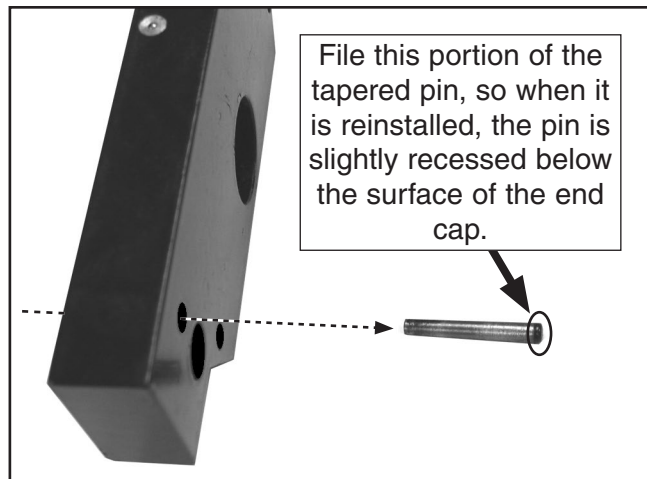

Figure 10. Pin removal.
13. Using a hammer, and working from the inside out as shown in **Figure 10**, drive both wedge pins from the end plate.